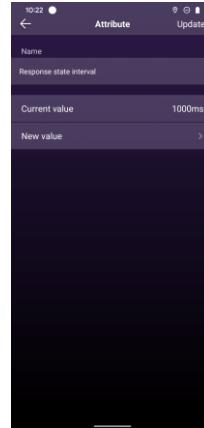
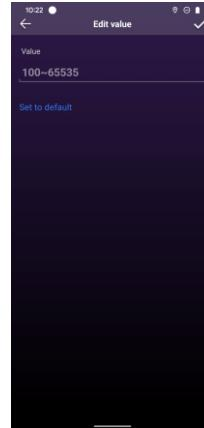

Figure 25
Figure 26
16. The attribute “**Response state interval**” is to set the time interval to report the sensor state. Tap it to enter setting interface, “**Current value**” means current interval, “**New value**” is to set a new interval, available setting range is 100~65536mS, factory default is 1000mS. Once set a new value, tap “**Update**” button at upper right corner to save the setting (as shown in **Figure 25 & Figure 26**).